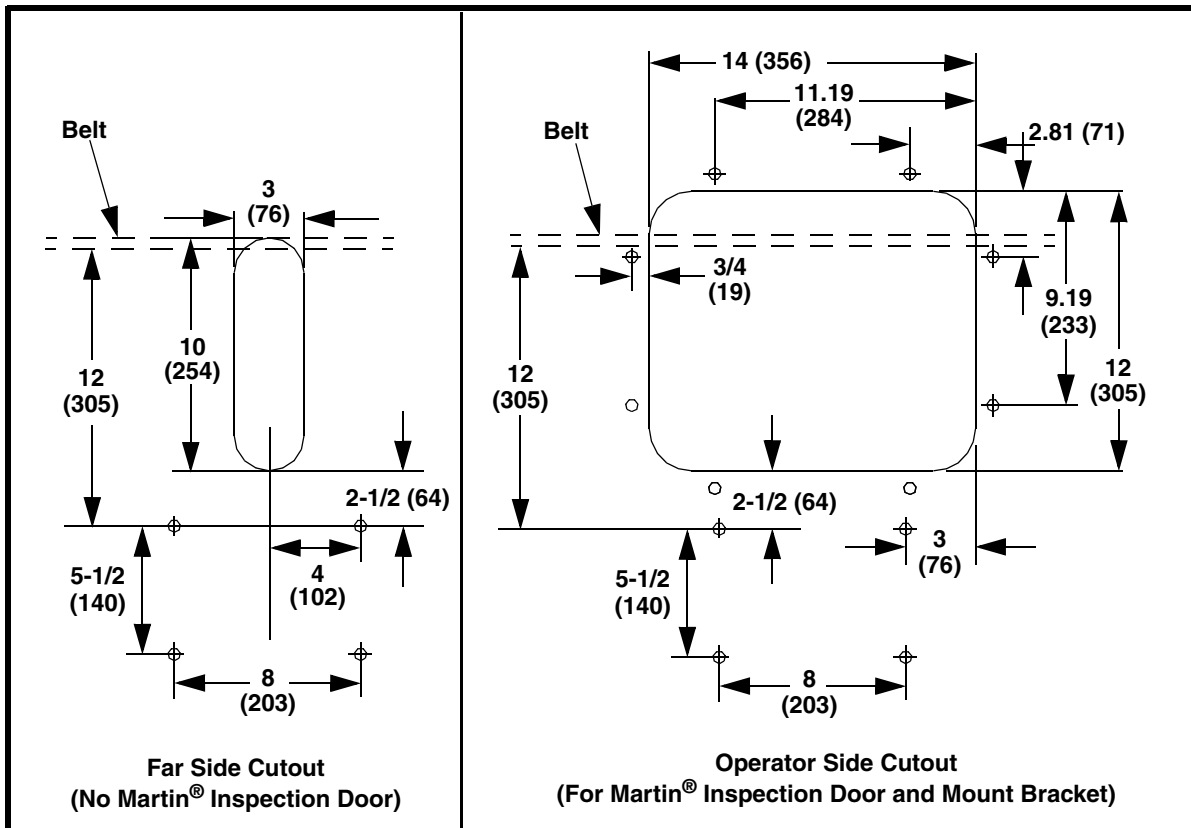

Figure 2. Cutouts for Martin® Standard or Rotary Strip Brush Cleaner
1. See Figure 2. Using mounts as templates, mark bolt holes and cutouts on chute walls.